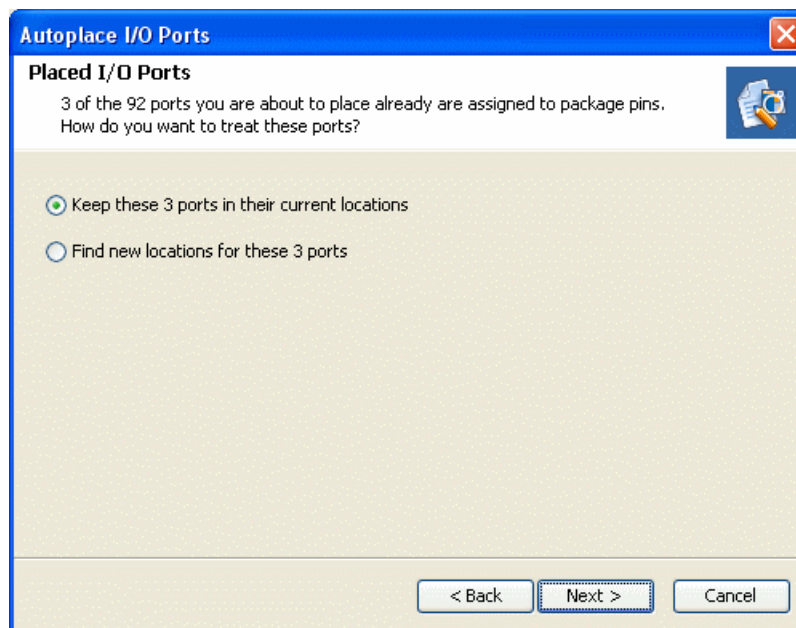

Figure 8-25: Autoplace I/O Ports Wizard
4. If you select I/O ports that have already been assigned to package pins, the dialog box opens, as shown in Figure 8-25, page 288.